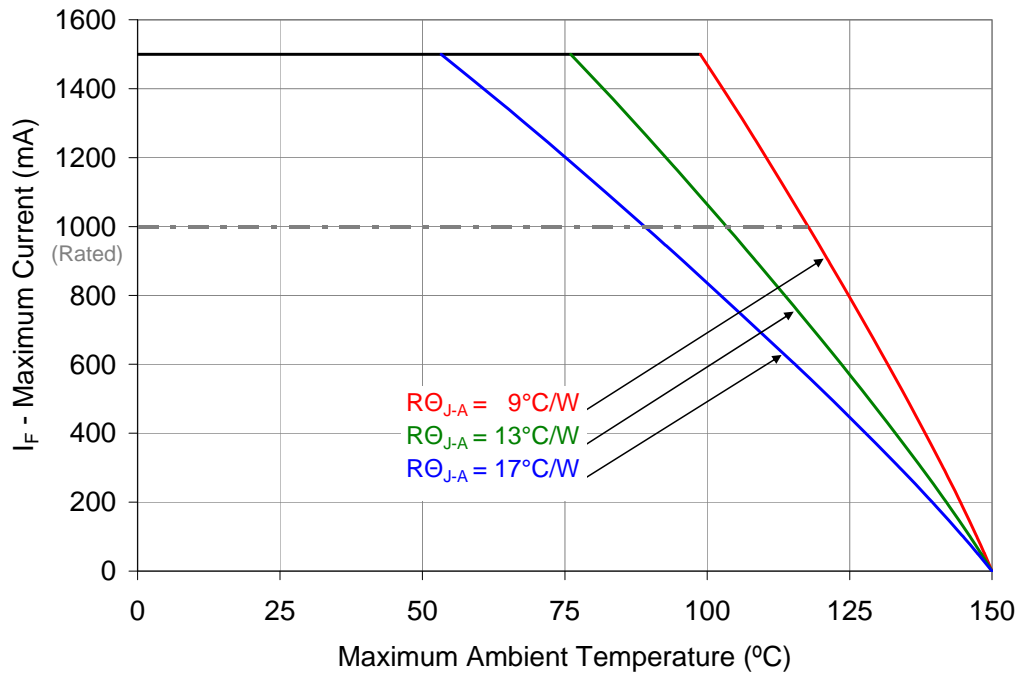

Figure 10: Maximum forward current vs. ambient temperature based on  $T_{J(MAX)} = 150^\circ\text{C}$ .
- Maximum DC forward current is determined by the overall thermal resistance and ambient temperature. Follow the curves in Figure 10 for current derating.
Notes for Figure 10: